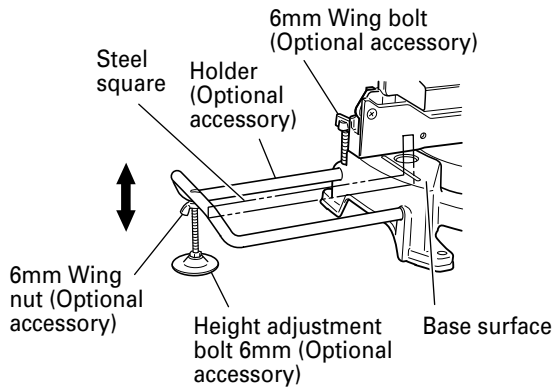

Fig. 9
- As indicated in Fig. 9, use a steel square for aligning the upper edge of the holders with the base surface. Loosen the 6mm wing nut. Turn a height adjustment bolt 6mm, and adjust the height of the holder.